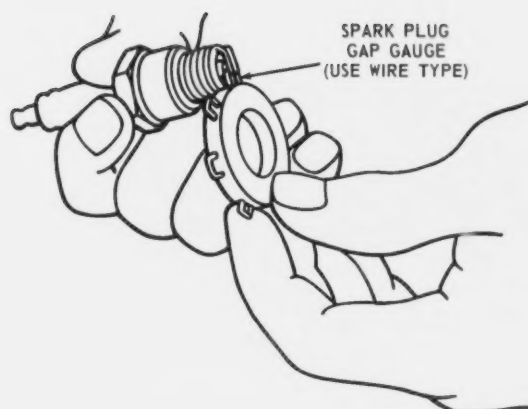

Fig. 40—Checking Spark Plug Gap (With Wire-Type Gauge)
1. Whether the plug is new or used, always check the gap before you install the plug (Fig. 40). Refer to your operator's manual for the correct gap (usually .020, .025, or .030 inch; 0.5, 0.6 or 0.8 mm).